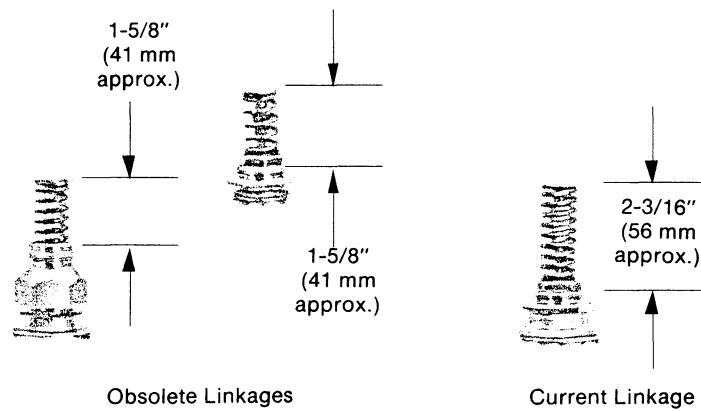
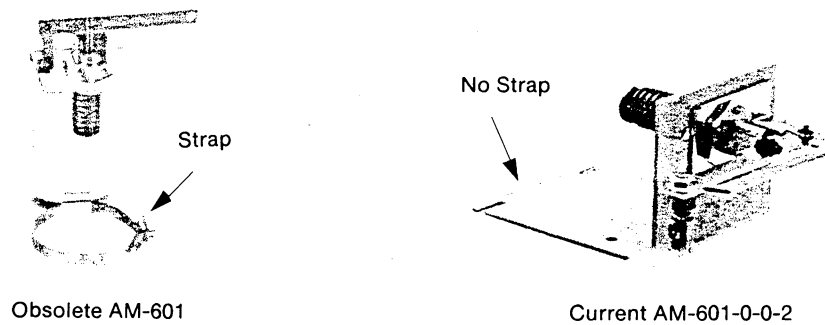

Figure-17 Current or Obsolete Valve Linkage.
Figure-18 Current or Obsolete Damper Linkage.
2. AM-602 spacer is used when current actuators are installed on old linkages (see Figure-17 and Figure-18).